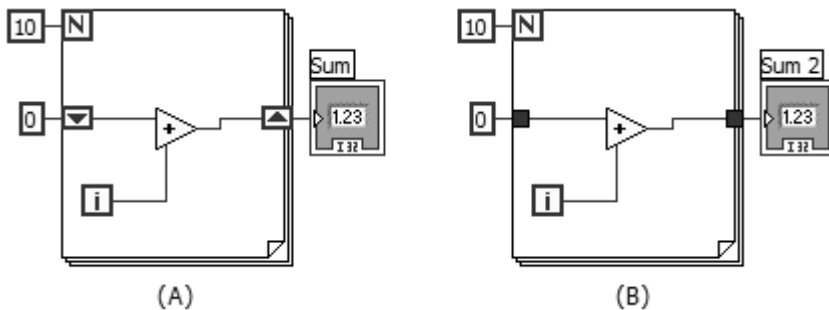

Figure 6.20
Observe the example illustrated in Figure 6.20. In loop (A), you are creating a running sum of the iteration count. Each time through the loop, the new sum is saved in the shift register. At the end of the loop, the total sum of 45 is passed out to the numeric indicator. In loop (B), you have no shift registers, so you cannot save values between iterations. Instead, you add zero to the current “i” each time, and only the last value of 9 will be passed out of the loop.